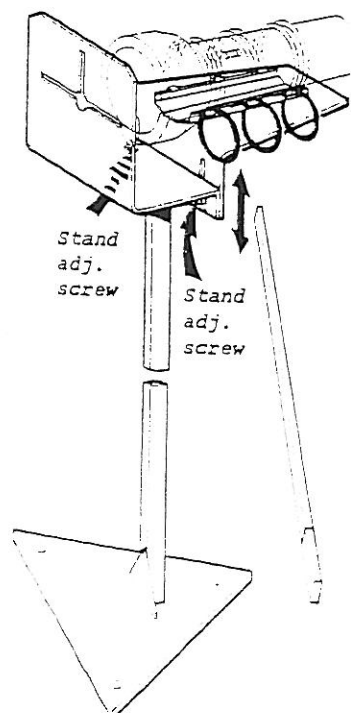

FIG. 6
The component parts of the unit (Fig. 6) are:
- (b) Electric tubular hand torch (not supplied with the equipment). The torch is held securely on the calibration stand by three rubber loops as shown in Fig. 6.